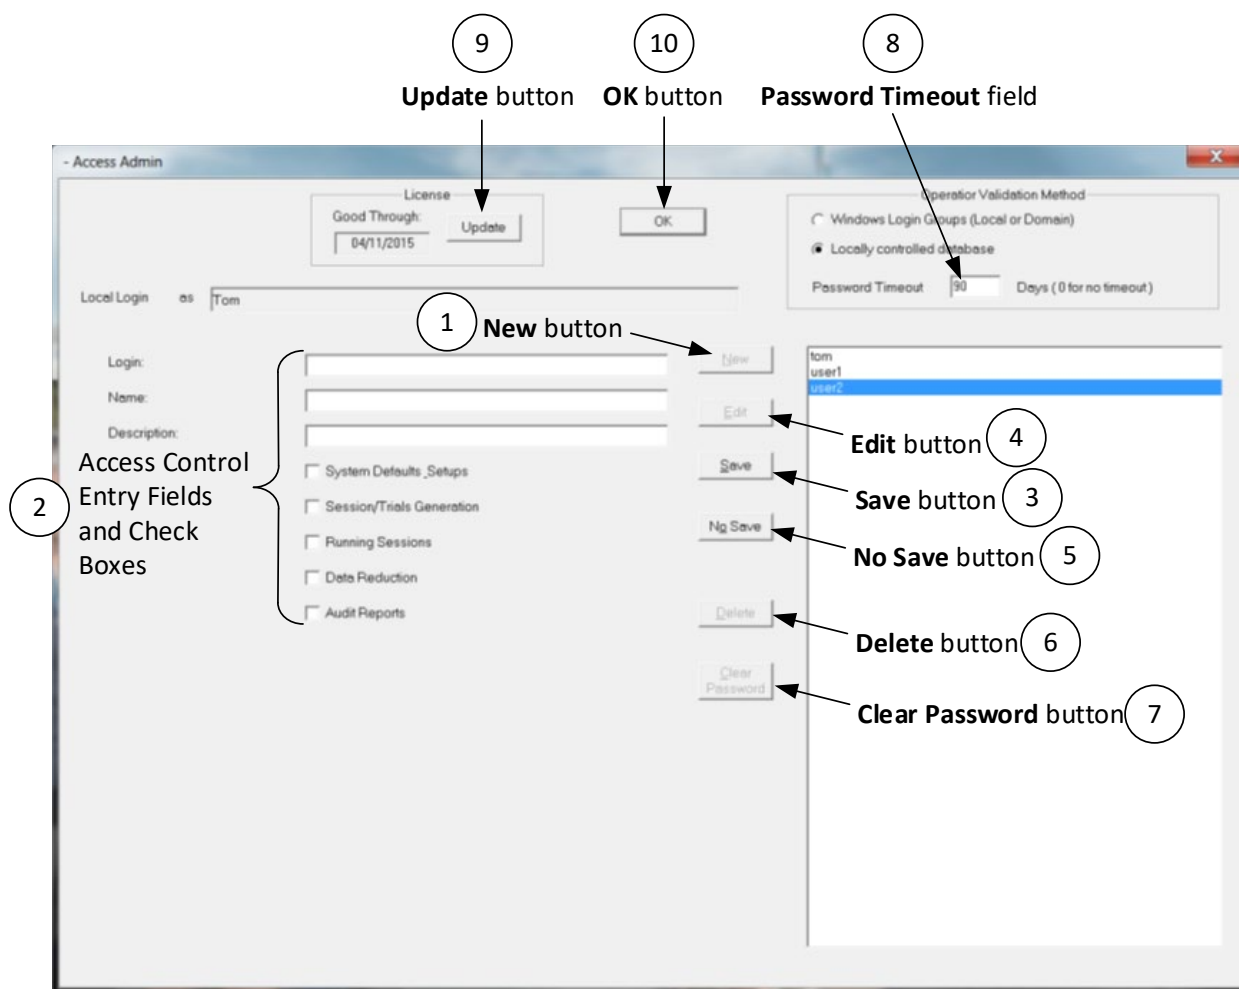

Figure 22 Access Controls
8. The **Access Admin** screen (Figure 22) will appear. This screen is where users' login information is created and maintained. Refer to the following illustration and the instructions that follow on the next page to assign access control and permissions.